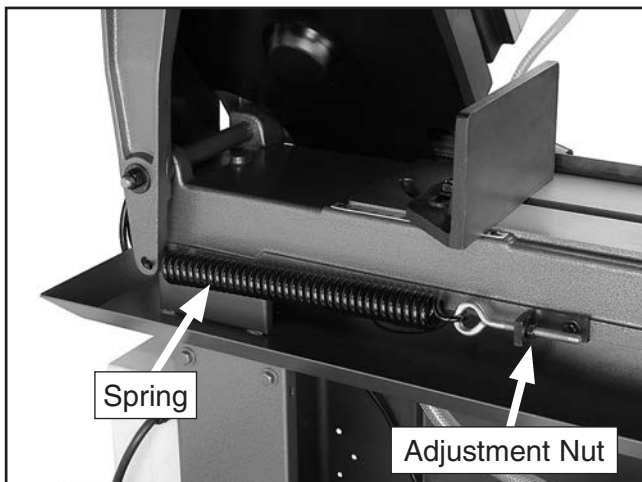

Figure 19. Spring tension adjustment.
2. Using a 14mm wrench, adjust the feed pressure tension spring. Tighten enough to remove play but not enough to apply tension to the spring (see **Figure 19**).